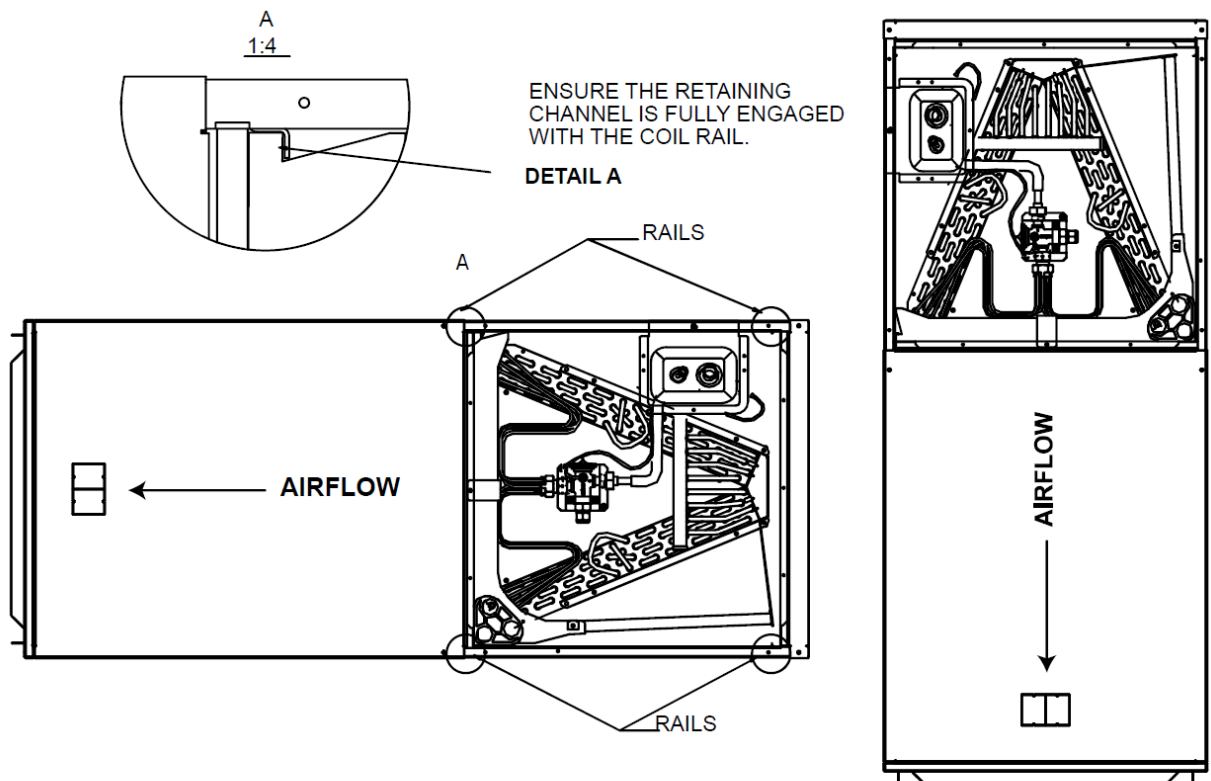

Figure 3-2 Horizontal left-flow and vertical down-flow and application
A vertical up-flow unit may be converted to vertical down-flow. Remove the front panel and take out the indoor coil assembly with drain pan, reinstall 180° from original position (Fig. 3-2 and 3-3).
- Reinstall the indoor coil 180° from original position. Ensure the retaining channel is fully engaged with the coil rail(Fig. 3-2 and 3-3).